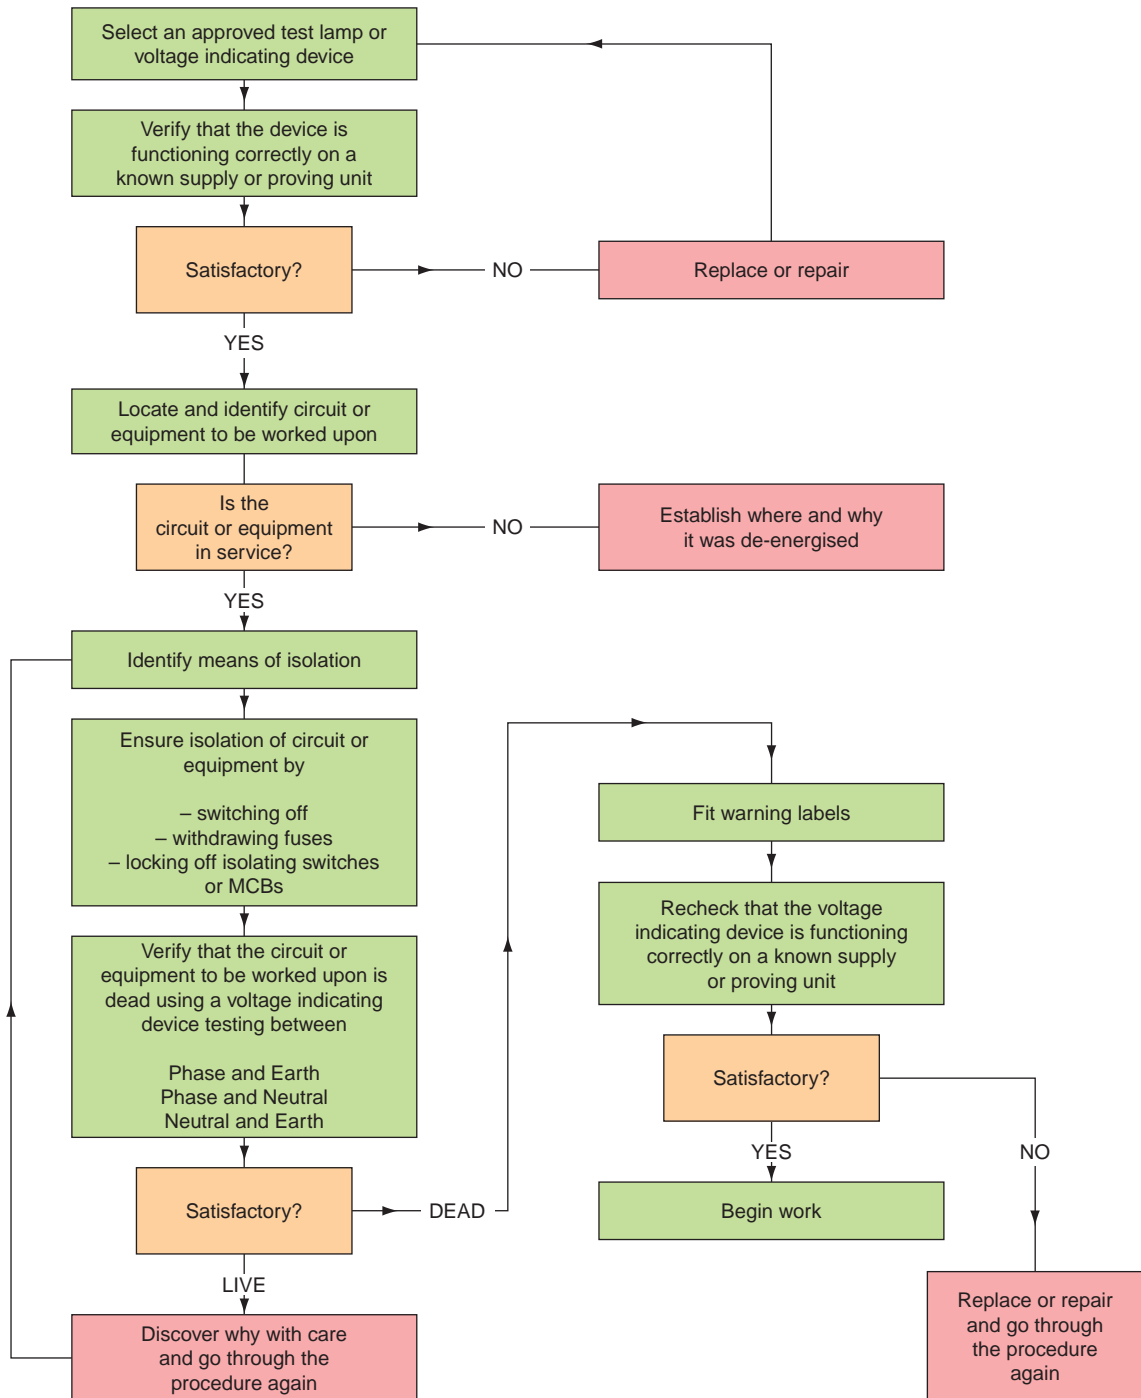

Figure 3.11 Safe electrical isolation procedure.
- a suitable safe electrical isolation procedure is shown in Fig. 3.11.
Follow each stage of Fig. 3.11 carefully and then you should practise this safe isolation procedure at college under the guidance of your lecturer and at work under the guidance of your supervisor. It is an important safety procedure which you must learn.